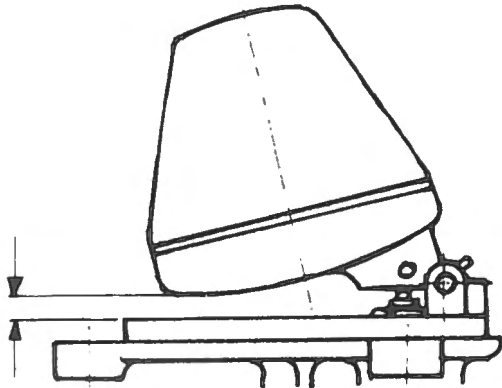

Fig. F-30
- 6 Refit the float and lever to the lid, insert the hinge pin and invert the float chamber lid. With the needle valve held in the shut-off position by the weight of the float only, there should be 3.17 mm to 4.76 mm ($\frac{1}{8}$ to $\frac{3}{16}$ in) gap, arrowed Fig. F-30, between the float and the rim of the float chamber lid.